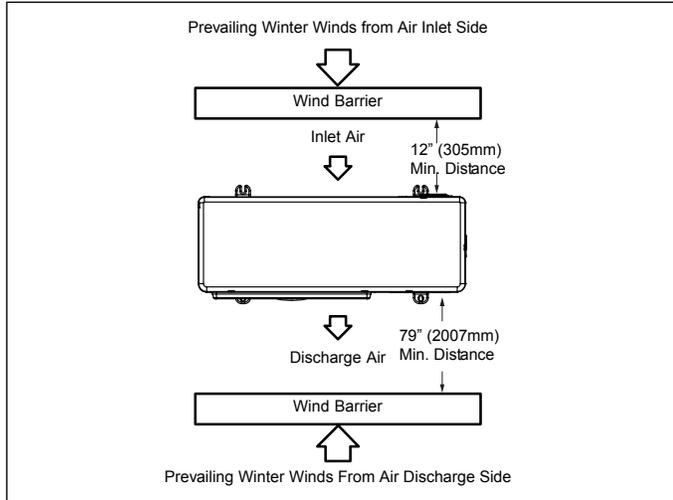

Figure 17. Wind Barrier
- When prevailing winds are from the air inlet side, then position the wind barrier a minimum of 12 inches (305 mm) from the unit as illustrated in “Figure 17. Wind Barrier”